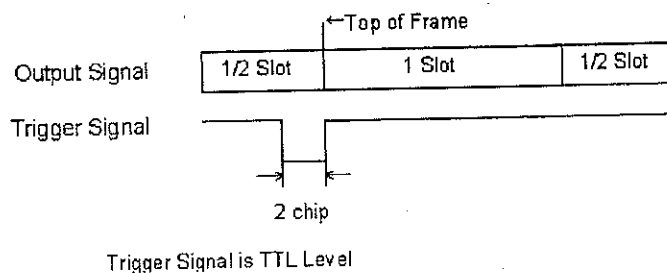

Figure 3-20 Timing Chart of BTS Test Signal
Figure 3-20 is shown timing chart of output signal and trigger signal.
2. On the SG5, set the data to generate the signal complied the requirement, refer to Table 3-27 and Figure 3-20.